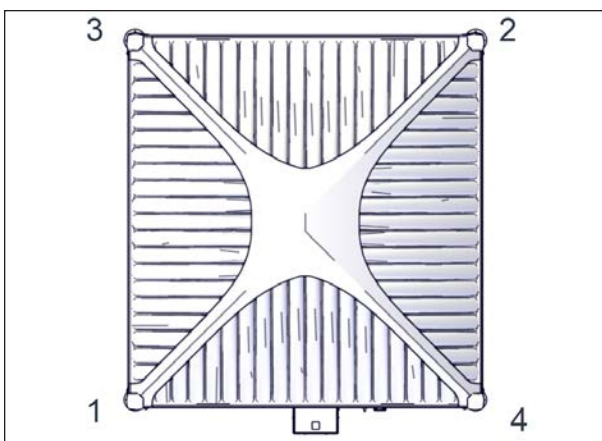

FIGURE 64: INSTALLATION PATTERN FOR THE OUTER CORNER BRACKETS (4)
3. Next steps show how to install the outer corner brackets (4). Figure 64 shows the installation pattern (four brackets, four corners). Install the first outer corner bracket on corner number 1 and then keep following the pattern for the remaining brackets.